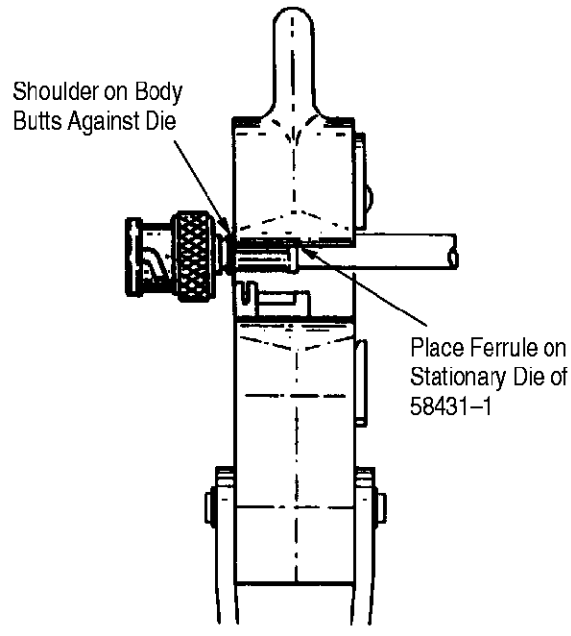

Figure 4
6. Position assembly between the dies so that the ferrule is placed on the stationary die with the shoulder on connector butting against die. See Figure 4.